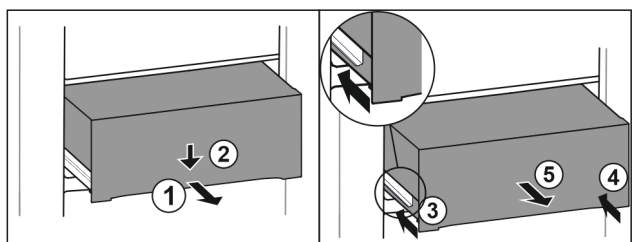

Fig. 128
- Pull out drawer half-way. Fig. 128 (1)
- Push the drawer down at the front. Fig. 128 (2)
- Push the left rail in by about 2 cm. Fig. 128 (3)
- Push the right rail in by about 2 cm. Fig. 128 (4)
- Remove drawer to the front. Fig. 128 (5)